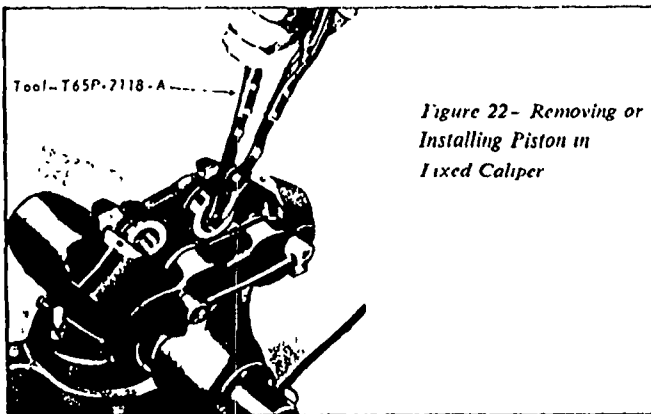

Figure 22- Removing or Installing Piston in Fixed Caliper
7. Remove the four pistons from the cylinder bores with a special tool, such as the one shown in Figure 22. To prevent cocking, that may cause damage to the piston or bore, rotate the piston with the tool while pulling it outward. Use care to avoid scratching or damaging the outside diameter surface or dust boot retaining groove of the piston. Such damage causes poor sealing.
4. Coat outside diameter of pistons with brake fluid and install pistons in cylinder bores so that the open end of piston and the boot retaining groove face out of the bore. To avoid cocking, locate piston squarely in bore and apply a slow even pressure. If a piston will not easily go all the way into the bore, remove it and thoroughly inspect cylinder bore, piston seal, and installation of seal. If the piston still will not go in (with bore in good condition and piston seal properly installed), use the tool shown in Figure 22. Rotate the piston with the tool while pushing inward with a steady force.